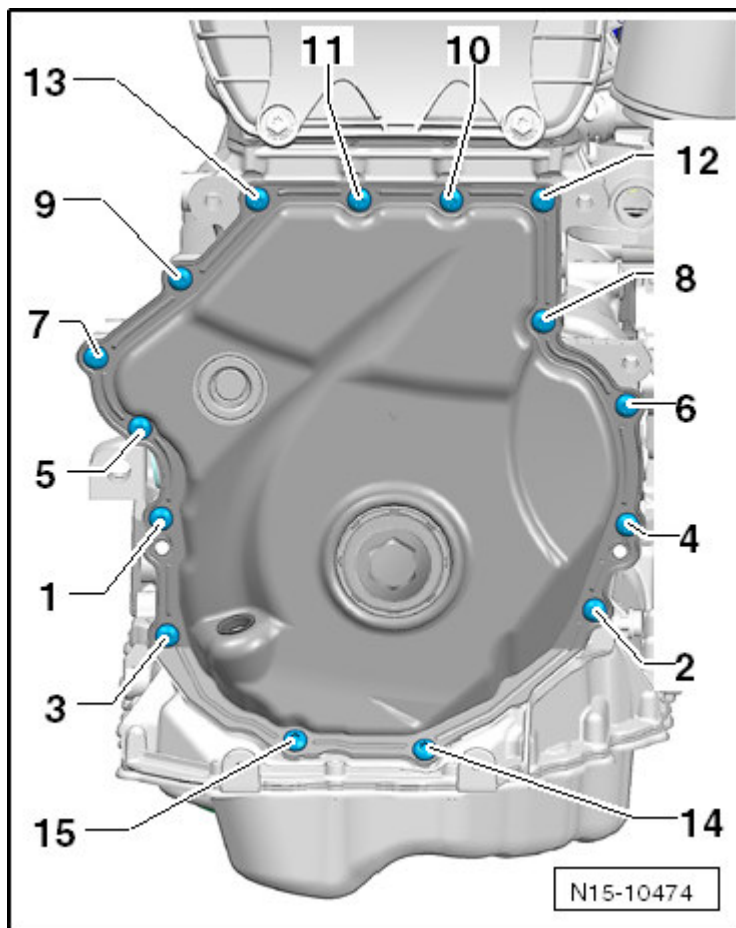

Fig. 11: Identifying Lower Timing Chain Cover Bolts
- Tightening sequence, refer to **Fig. 11**.
- Observe the tightening sequence **Fig. 11**.